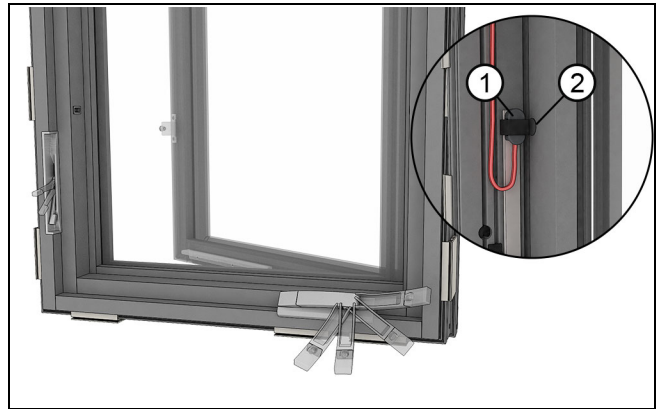

Figure 38
1. Close the sash fully and engage the lock handle. The sensor will align with the magnet and signal a closed and locked status. See Figure 38.